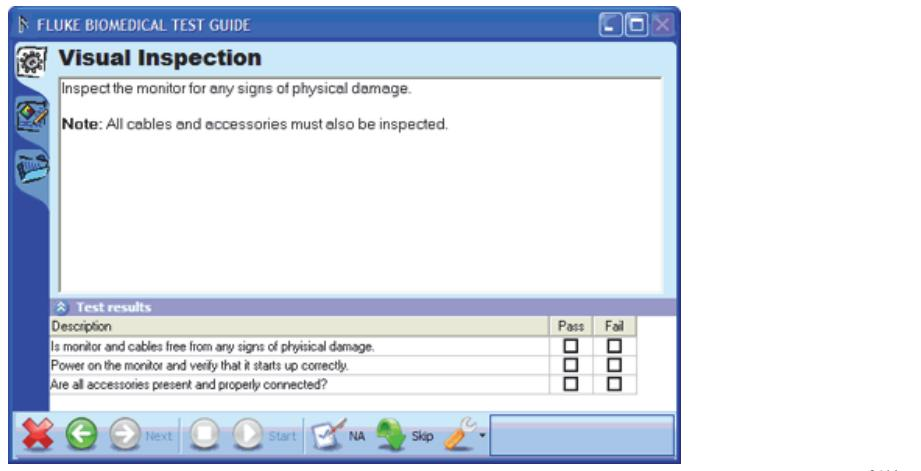

Figure 3-27. Test Guide Previewing a Checklist
13. Click the **Abort** button ( ) to return to the test template. When asked if you want to abort the test template, you must click the **Yes** button. The Test Guide for the checklist will be displayed as shown in Figure 3-27.